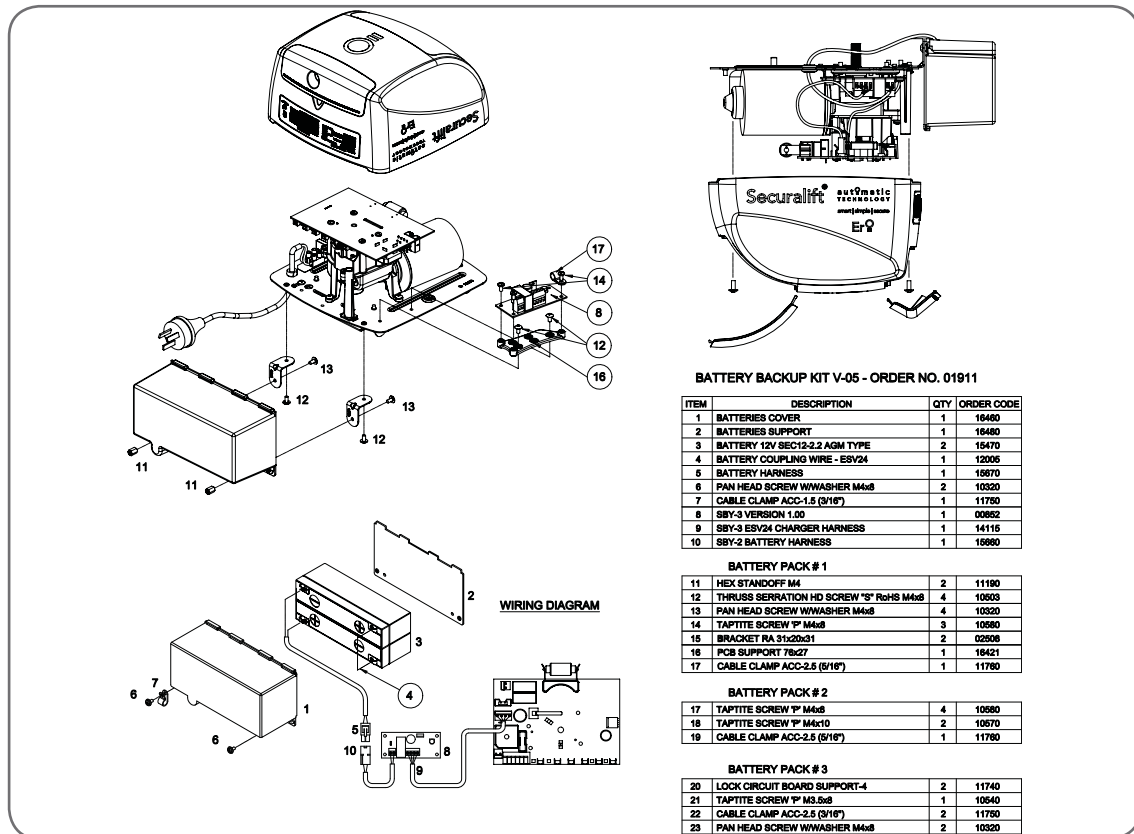

fig 49
- Swing open the light diffuser and controls cover. Remove screws marked "S" above in fig and lift up the main cover. (Fig 49).
- Mount the brackets RA (item no 9) to battery pack with item 7 and 8
- Connect battery harnesses item 3 and 4 together (Fig 49).